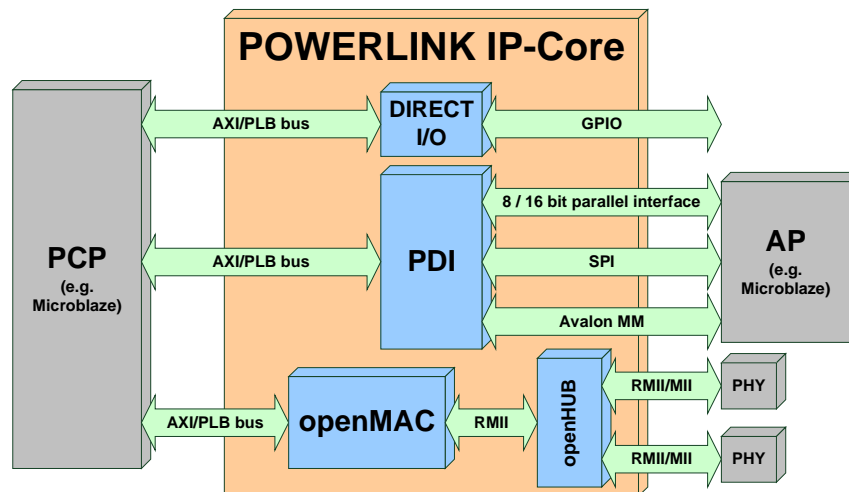

Figure 1 POWERLINK IP-Core Block Diagram
The XPS allows easy configuration of the IP-Core, thus the user is able to define parameters depending on the application of the POWERLINK Node. Figure 1 visualizes the block diagram of the IP-core, emphasizing the interfaces to the POWERLINK Communication Processor (PCP) and to the application with the optional Application Processor (AP). Please note that the PDI and DIRECT I/O blocks are mutual exclusive, depending on the IP-Core configuration. However, the MAC-layer components openMAC and openHUB1 are mandatory components of a POWERLINK node.